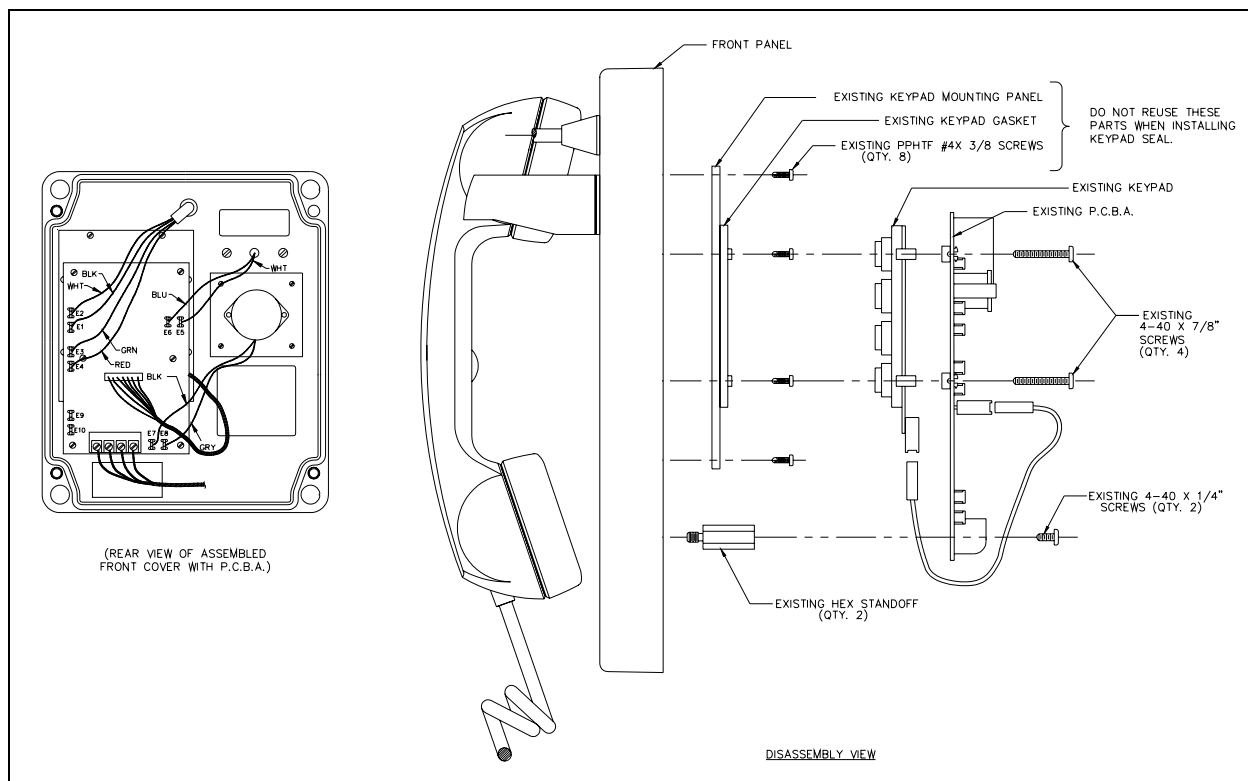

Figure 1. Disassembly View
2. See Figure 1. The printed circuit board assembly (PCBA) is mounted with six screws. Four screws mount to the keypad mounting panel below and two mount to standoffs on the phone front panel. Remove the two 4-40 × ¼-inch screws from the hex standoffs and save for reassembly later. Unscrew the other four screws about ¼ inch or until they disengage from the keypad mounting panel below. (These screws will also be reused when re-assembly later.)